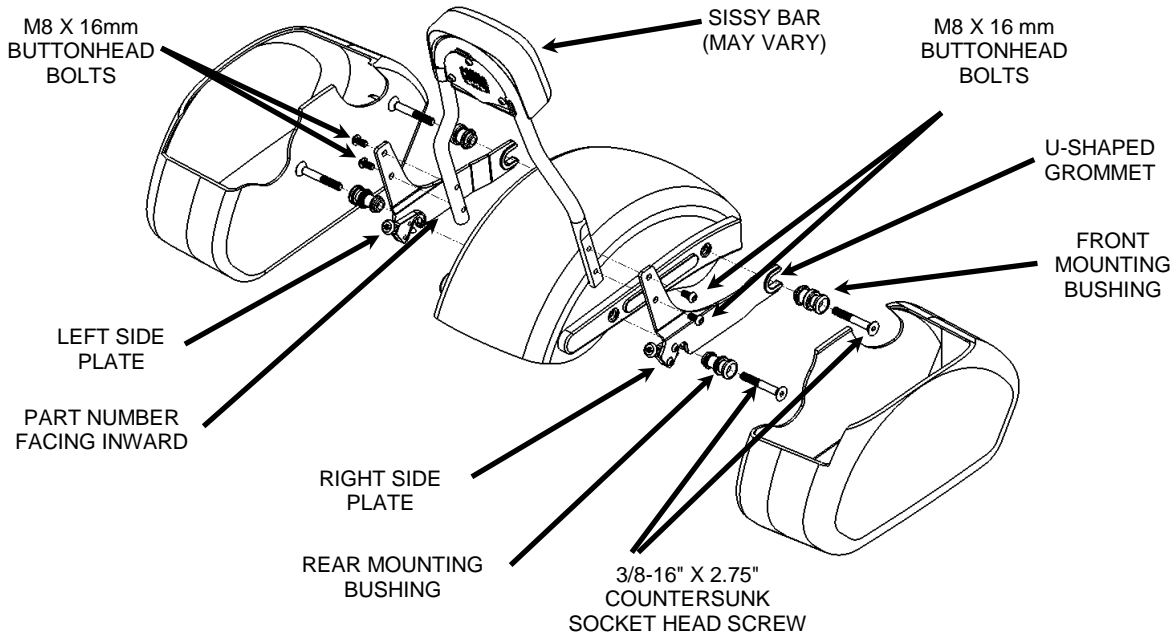

FIGURE 3
6. Install the supplied side plates on to the sissy bar with the four M8 X 16 mm button head bolts. Make sure the u-shaped grommets are facing the same direction (forward), as the sissy bar pad and the part numbers are facing inward. See **FIGURE 3**. Snug the bolts but **DO NOT TIGHTEN** at this time.